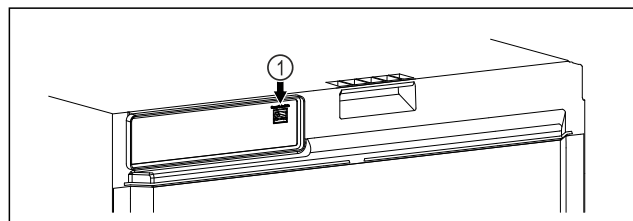

Fig. 114
- SmartModule Fig. 114 (1) has been inserted.